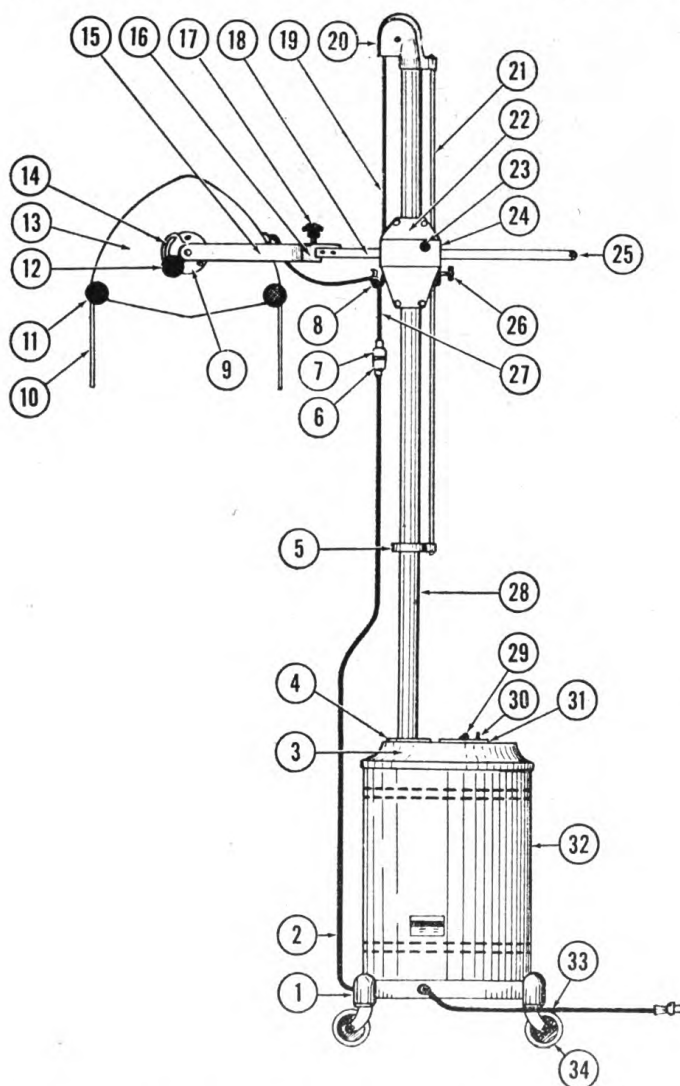
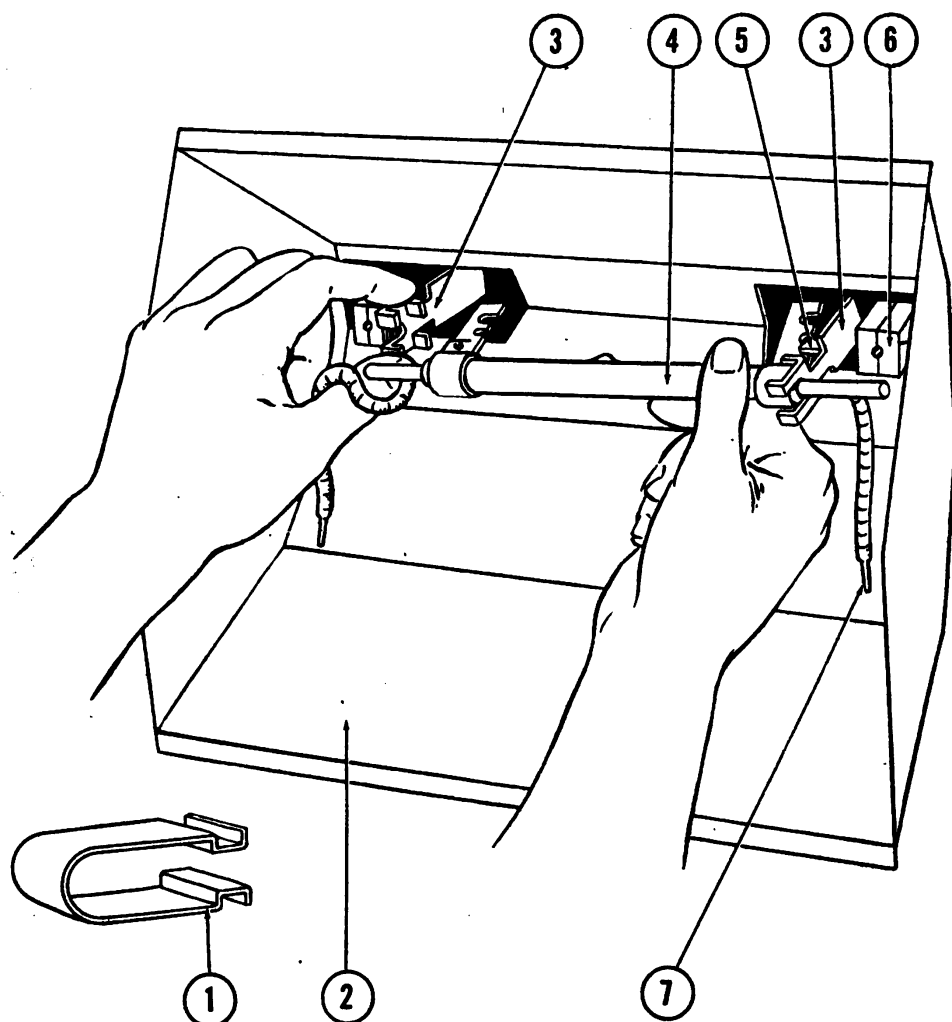
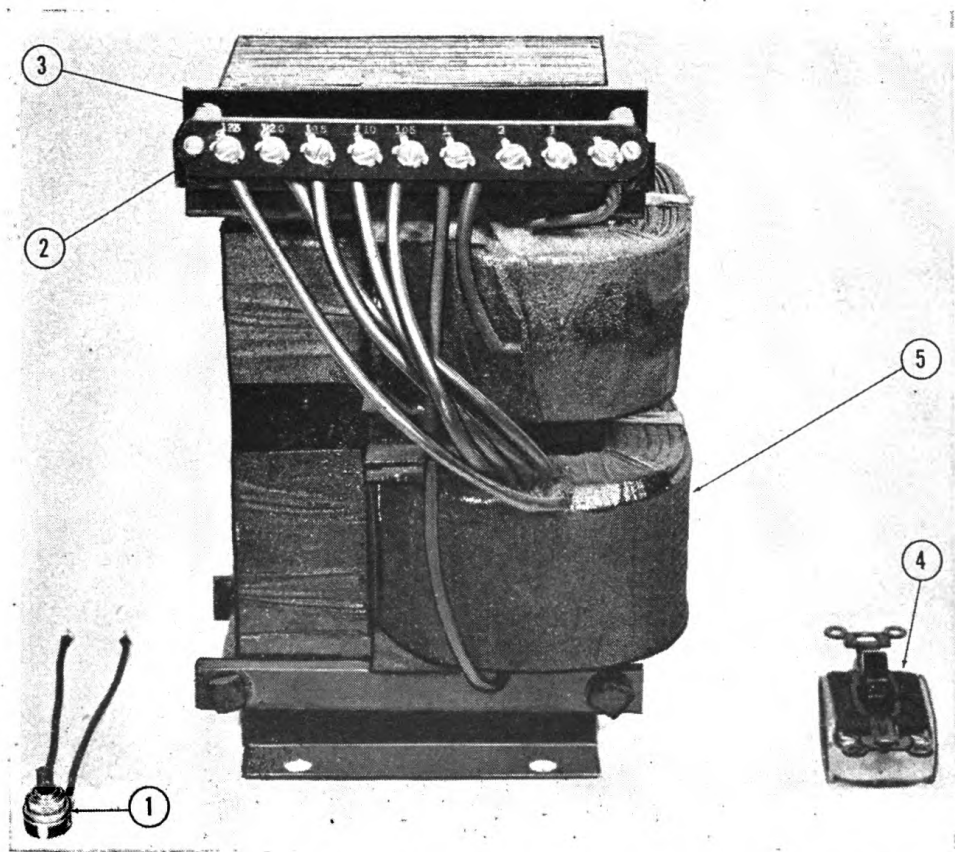

Figure 8. Lamp, therapeutic, mercury arc, air-cooled, mobile, complete, 110-volt, 60-cycle, Hanovia model.
Figure 9. Burner housing, Hanovia model—bottom view.
Figure 12. *Parts for lamp, therapeutic, mercury arc, air-cooled, mobile, complete, 110-volt, 60-cycle, Hanovia model.*
e. Assembling the Hanovia model. (1) Slip the casters into the sockets on the bottom of the cast iron base, 7R04252 (fig. 8). Set the base assembly on its four casters.
(2) Lock the carriage (fig. 8 (22)) on the upright tube, 7R04304 (fig. 8), of the upright assembly by tightening the vertical carriage locking knob, 7R04280 (fig. 8).
(3) Raise the upright assembly so that the bottom end may be placed in the hole provided in the base cover plate, 7R04214 (fig. 8). Lower the upright assembly until it seats.
(4) Remove the two screws located at the extreme end of the burner housing rail (fig. 8 (25)) of the burner housing assembly. Insert the burner housing rails, 7R04316 (fig. 8), horizontally into the wheel track of the carriage (fig. 8 (22)) until the screw holes project on the opposite side of the carriage. Replace the two screws and tighten. If the burner housing rail does not move freely, loosen the rail-locking knob, 7R04322 (fig. 8).
(5) To install the burner, proceed as follows:
(a) Place the burner, 7R04336 (fig. 9), in the burner supports (fig. 9 (3)) by grasping the metal end of the burner with the right hand in a position such that the fitting seal and the slotted metal fittings (fig. 9 (5)) are toward the lamp. With the left hand push and hold to the left the left-hand burner support (fig. 9). Insert the right end of the burner into the right-hand burner support, taking care that the right slotted metal burner fitting engages the Y-shaped guide. Fit the left-hand burner support over the left end of burner. Release the left-end support and then the burner.
(b) Insert the burner pin leads (fig. 9 (7)) into their respective porcelain terminal blocks, 7R04346 (fig. 9).
(c) Grasp the burner end shield, 7R04338 (fig. 9), with the hand and place the fingers near the flanged edges. Slip the burner end shields over the ends of the burner and the beaded leads. Squeeze the flanged edges of the shield together with the fingers and insert the end burner shield flanges into the opening in the lamp reflector. Release the fingers so that the flanges engage the reflector.
(c) *Hanovia model*. Remove the switch plate, 7R04216 (fig. 8), by unfastening the canopy rotary starter switch lock nut (fig. 8 (30)) and the two switch-plate screws. Unfasten the screws holding the base cover plate, 7R04214 (fig. 8), and raise it to make the terminal board accessible. Connect the line lead to the proper terminal tap as indicated by the voltage markings on the terminal board, 7R04232 (fig. 12). Replace the